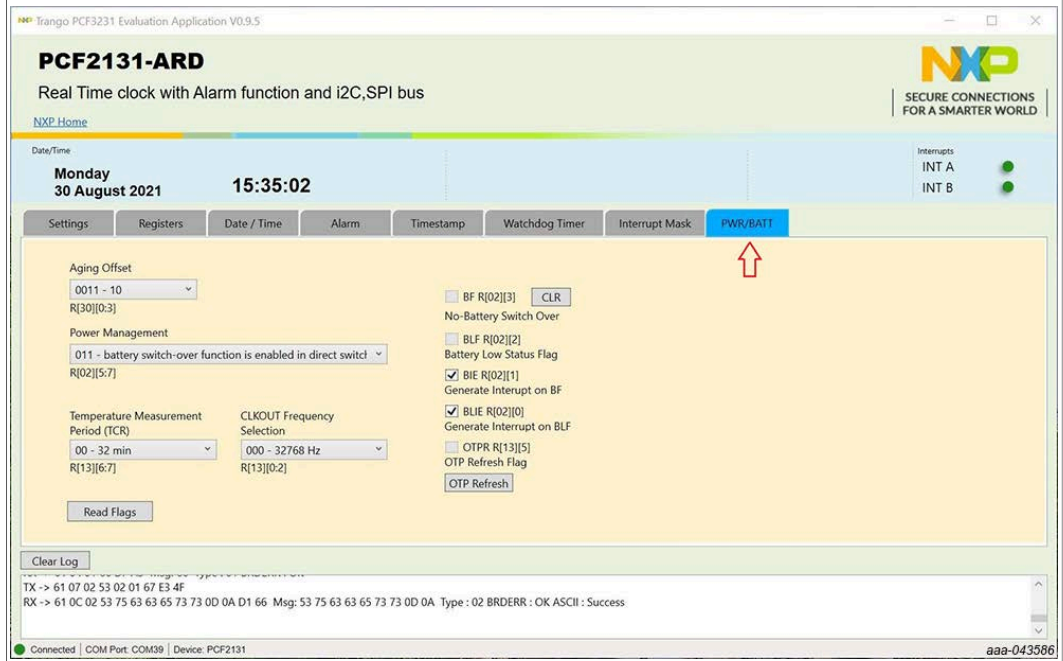

Figure 22. Graphical interface – “PWR/BATT” tab activated
- **PWR/BATT:** Figure 22. See the datasheet for more details regarding power management of the PCF2131 RTC.